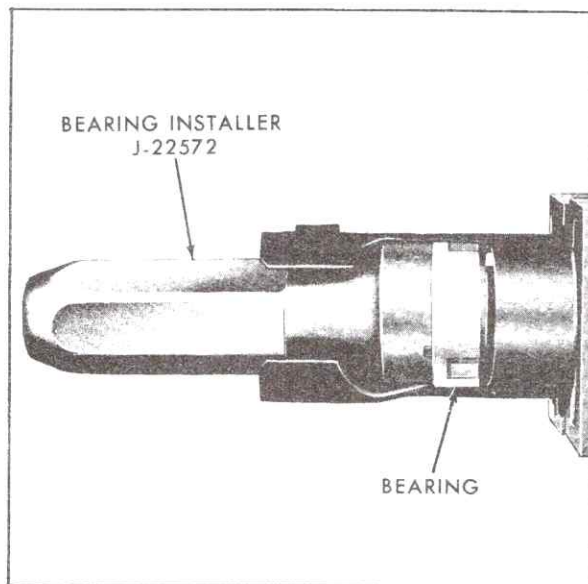

Fig. 9-45 Installing Bearing in Jacket
2. Install bearing in jacket by pressing it in using Bearing Installer, J-22572 Fig. 9-45. Do not hammer in place as damage to column may result.